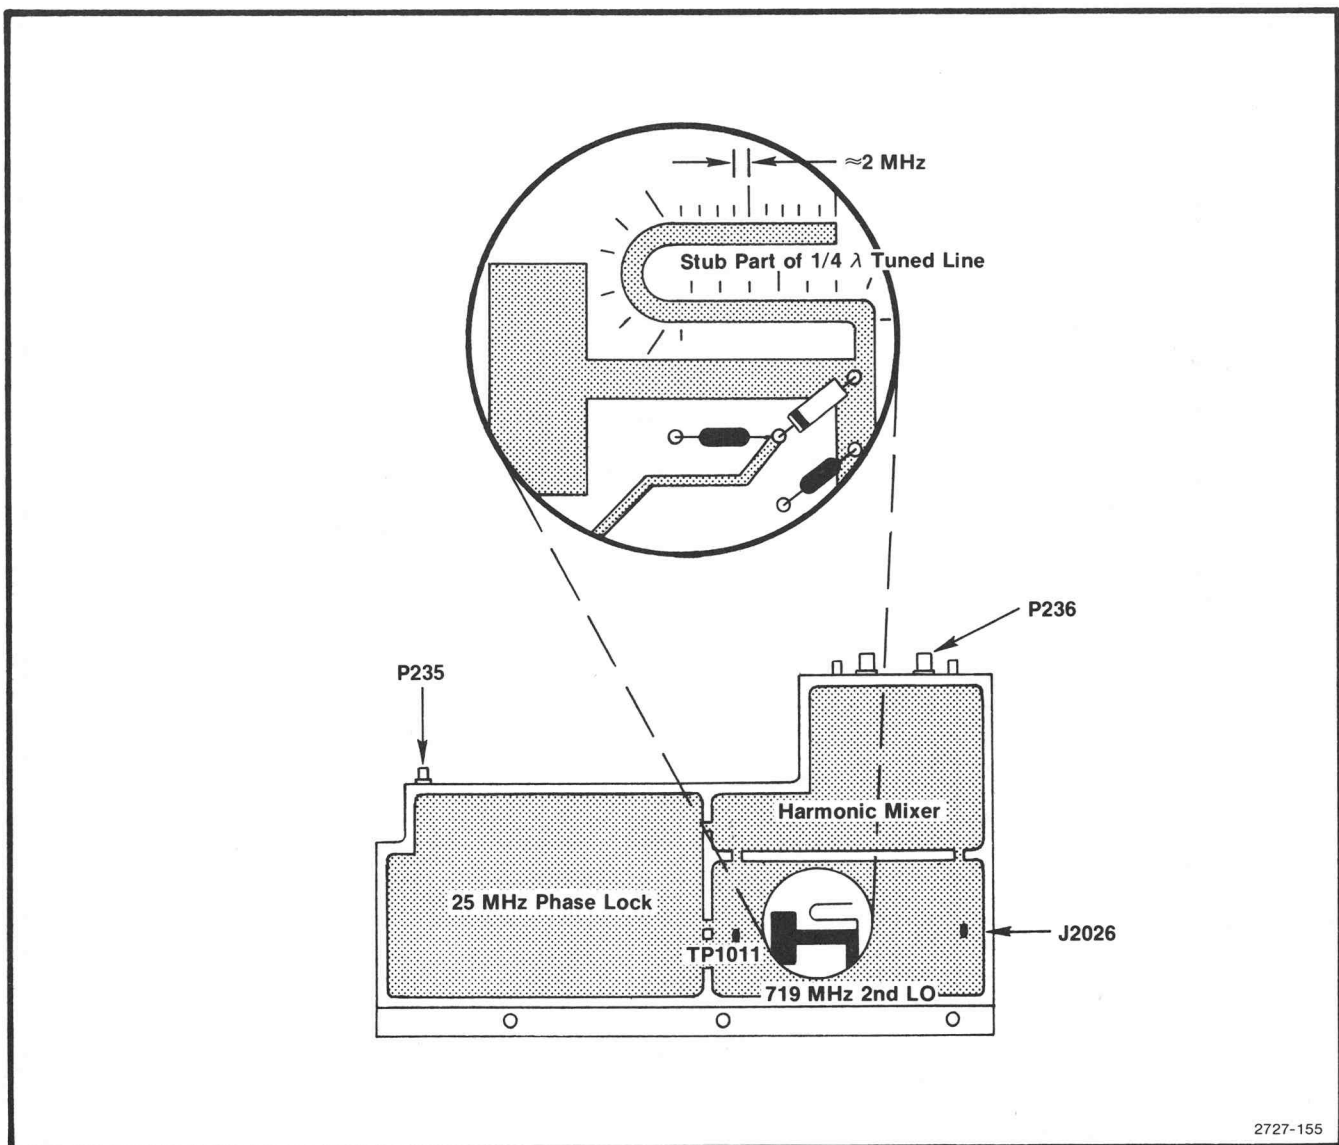

Fig. 4-12. LO section of the 829 MHz converter showing test points and connectors.
- b. The 2nd LO range is from 714.5 MHz to 723.5 MHz (with the cover off). 719 MHz is the optimum center frequency. Frequency of the oscillator is controlled by the Tune Volts from the 25 MHz Phase Lock circuit (located at TP1011) which varies from +5 V (low end) to +11.9 V (high end) with +6.75 to +7.5 V as the limits for operation at 719 MHz. Set the digital voltmeter to measure 12 V then connect it between TP1011 (Fig. 4-12) and ground.
- c. Disconnect the 100 MHz reference from the 3rd converter by unplugging P235 (Fig. 4-12). The oscillator should go to its upper limit and the voltmeter indicated about 11.9 V.
- e. The 719 MHz oscillator frequency is a function of the length of the printed 1/4 wavelength transmission line. Minor adjustments to the oscillator frequency are made by shortening the U shaped transmission line stub, off the main line. Graduation marks (see Fig. 4-12) along the side of the stub provide a guide to calculate frequency correction. Each minor mark from the end or cut across the stub, represents an approximate change of 2 MHz.